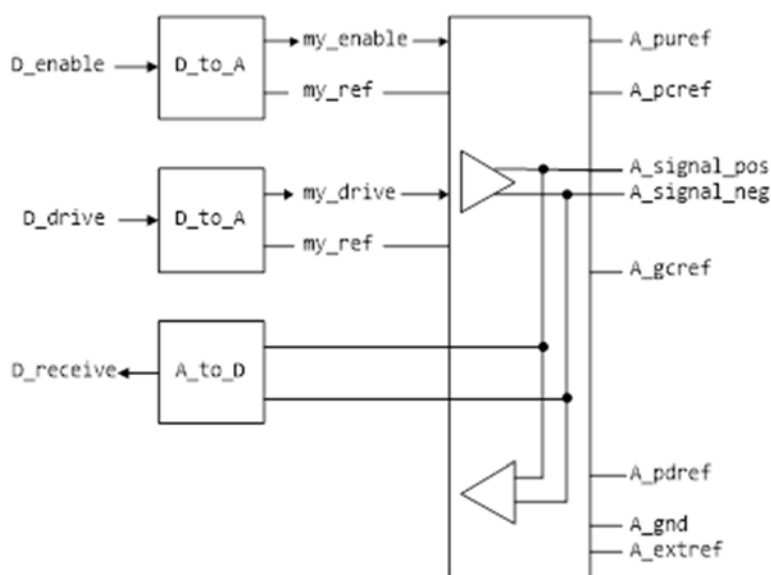

Figure 31 – Multi-lingual True Differential Buffer
The D_to_A or A_to_D adapters used for SPICE, IBIS-ISS, Verilog-A(MS) or VHDL-A(MS) files may be set up to control or respond to true differential ports. An example is shown in Figure 31.